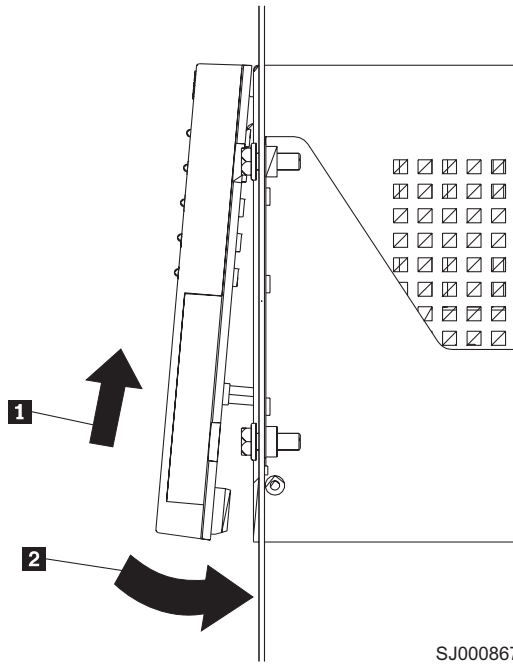

Figure 10. Replacing the controller-unit bezel (machine types 3552 [FASt500] and 1742 [DS4400 and DS4500])
4. To replace the bezel, slide the top edge under the lip on the chassis **1**. Then push the bezel bottom until the pins snap into the mounting holes **2**, as shown in Figure 10 on page 58.